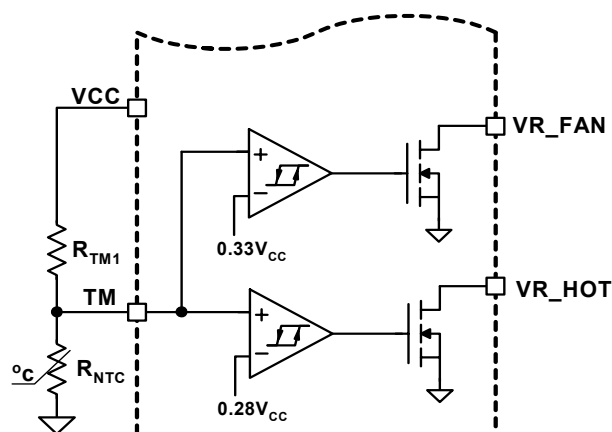
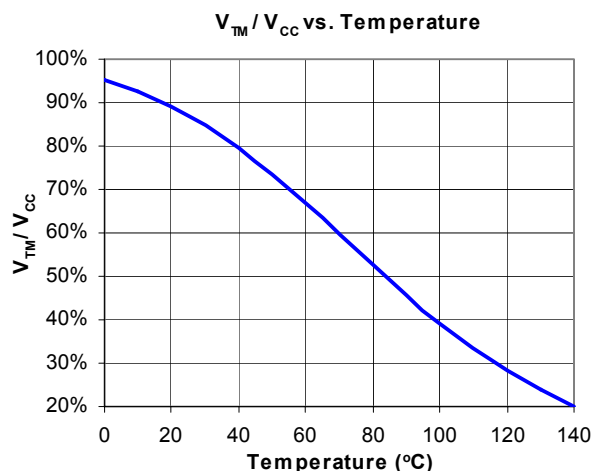

FIGURE 18. BLOCK DIAGRAM OF THERMAL MONITORING FUNCTION
FIGURE 19. THE RATIO OF TM VOLTAGE TO NTC TEMPERATURE WITH RECOMMENDED PARTS
The diagram of thermal monitoring function block is shown in Figure 18. One NTC resistor should be placed close to the power stage of the voltage regulator to sense the operational temperature, and one pull-up resistor is needed to form the voltage divider for the TM pin. As the temperature of the power stage increases, the resistance of the NTC will reduce, resulting in the reduced voltage at the TM pin. Figure 19 shows the TM voltage over temperature for a typical design with a recommended 6.8k Ω NTC (P/N: NTHS0805N02N6801 from Vishay) and 1k Ω resistor RTM1.
ISL6307A converts the TM pin voltage to a 6-bit TM digital signal for temperature compensation. With the non-linear A/D converter of ISL6307A, TM digital signal is linearly proportional to the NTC temperature. For accurate temperature compensation, the ratio of the TM voltage to the NTC temperature of the practical design should be similar to that in Figure 19.
1. Properly choose the voltage divider for TM to match the TM voltage vs. temperature curve with the recommended curve in Figure 19.